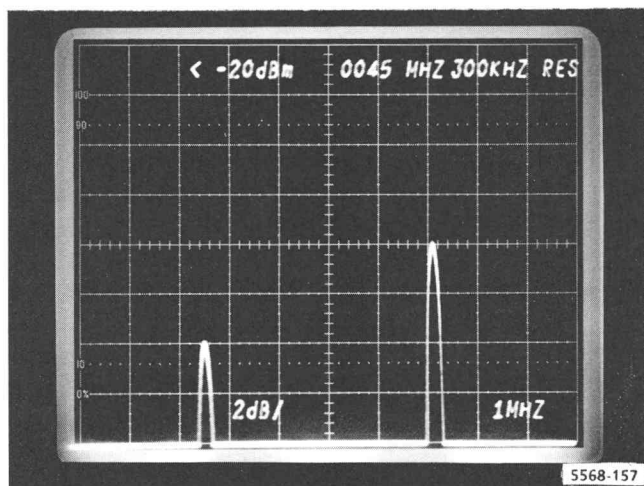
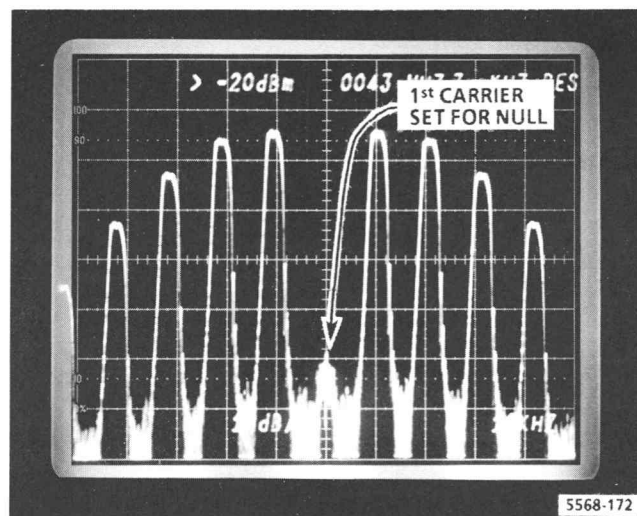

Fig. 4-29. Aural carrier 4 dB below unmodulated visual carrier.
Fig. 4-30. 1st carrier null (25 kHz deviation).
- Set the Test Modulator Aural Carrier Level control so the aural carrier is 4 dB below the unmodulated visual carrier. See Fig. 4-29. Then reset the spectrum analyzer mode to 10 dB/div, freq span/div to 10 kHz, and resolution to 3 kHz. Ensure the aural carrier is centered on the display. Set the audio oscillator variable attenuator for the first carrier null at the center frequency. See Fig. 4-30. This sets the Test Modulator IF Out for 25 kHz deviation.